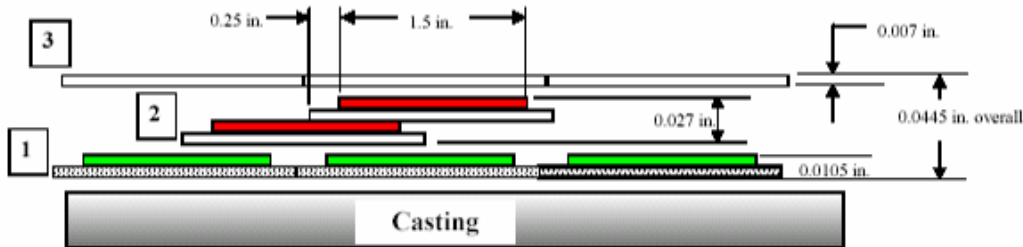

Figure 4- Groundwrap scheme
6.7.1 Apply pre-cut layers (approximately 18 inches long) of ground wrap insulation Figure 4- Groundwrap scheme